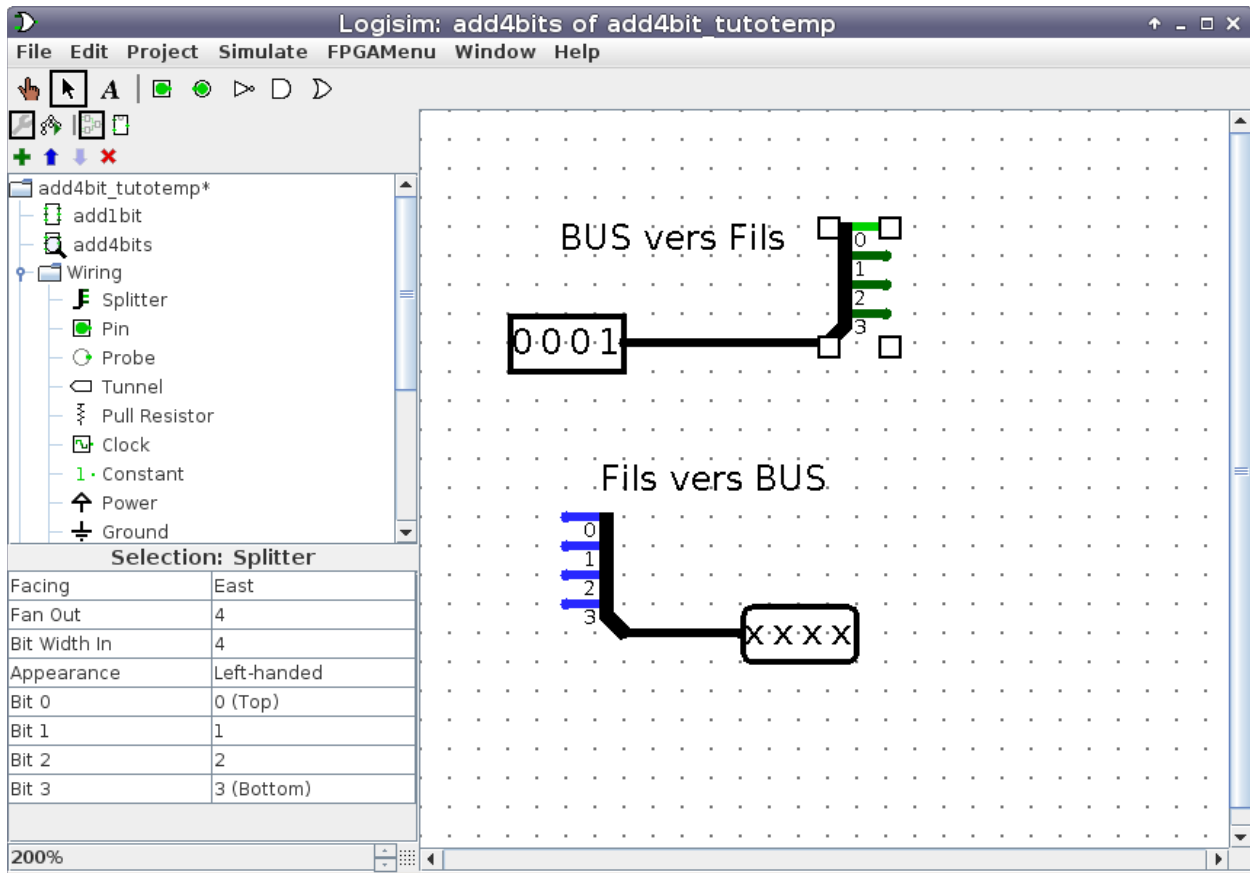

Figure 7: Example splitters
6. When you pull a wire from one of these inputs, it's not a simple signal, but a 4-bit bus. To connect the inputs to the inputs of the 1-bit adders, we will have to separate the different outputs of the bus in order to process them one by one. The *splitter* wiring element allows such conversions in both directions: a 4-bit bus to 4 wires, and 4 wires to a 4-bit bus. See Figure 7.